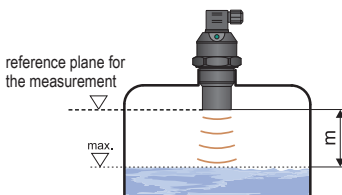

Fig. 2: Dead zone of the device
d) The reference plane for the measurement is the lower edge of the transducer (Fig.2). In compliance with the measuring principle, no signals **reflected in the area directly below the device** (dead zone) can be evaluated. The dead zone (Fig. 2) determines the minimum distance possible between the device and the highest level. The minimum distances to the medium are listed in the chapter "Technical specifications".